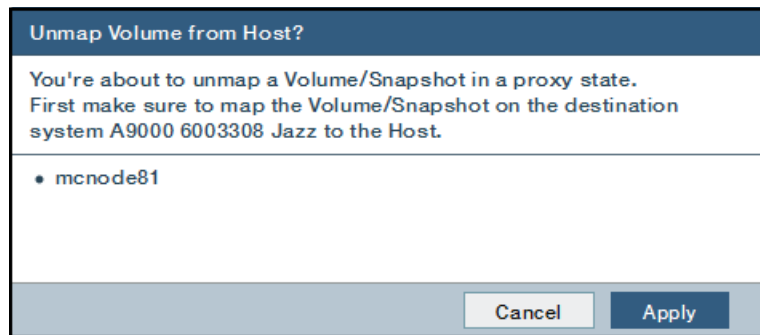

Figure 3-26 Confirm the unmapping of the source volume from the host
3. A confirmation window opens and prompts you to confirm that you want to unmap the selected volume, as shown in Figure 3-26. Click **Apply** to unmap the source volume from the host.